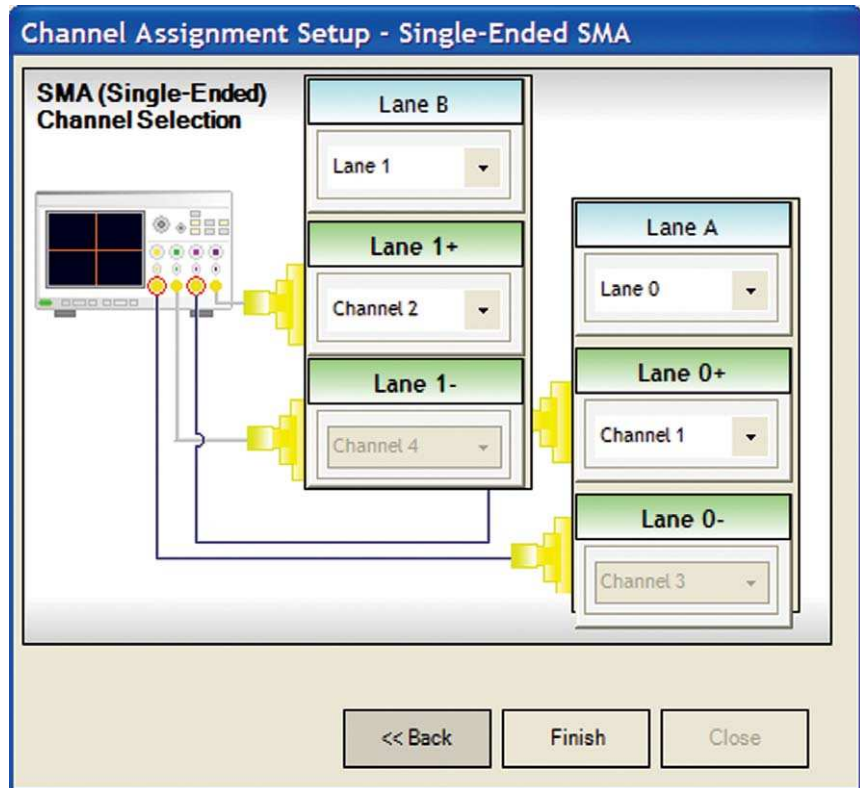

Figure 5: Channel Assignment Setup: Lane and oscilloscope assignment: 2 Lane Single-ended Connection using all four scope channels.
- Oscilloscope Connection: this screen allows you to assign oscilloscope channels and device lanes to test. See Figure 5.